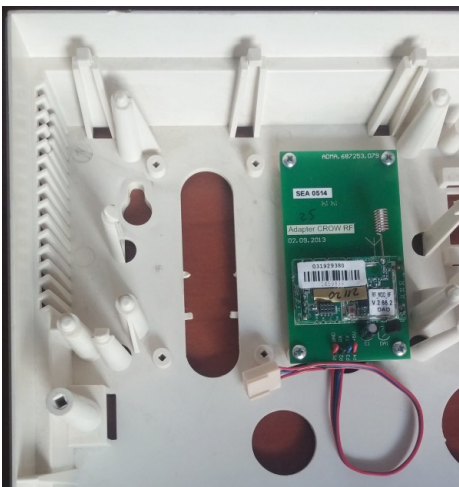

Figure 20. “Crow-Lun-11” adapter in the device housing
- “**CROW-Lun-11**” Adapter – should be installed into the device housing (Figure 20);